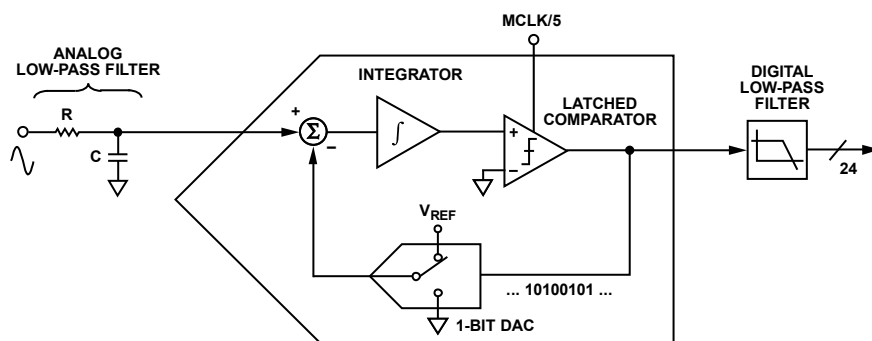
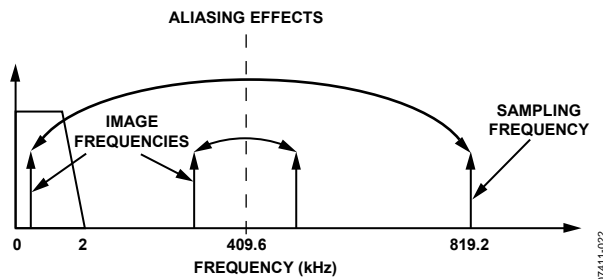

Figure 41. First-Order Σ - Δ ADC
Figure 42. ADC and Signal Processing in Current Channel Outline Dimensions
For simplicity, the block diagram in Figure 41 shows a first-order Σ - Δ ADC. The converter is made up of the Σ - Δ modulator and the digital low-pass filter (LPF).
Figure 41 also shows an analog LPF (RC) on the input to the modulator. This filter is present to prevent aliasing, an artifact of all sampled systems. Aliasing means that frequency components in the input signal to the ADC, which are higher than half the sampling rate of the ADC, appear in the sampled signal at a frequency below half the sampling rate. Figure 42 illustrates the effect. Frequency components (the black arrows) above half the sampling frequency (also known as the Nyquist frequency, that is, 409.6 kHz) are imaged or folded back down below 409.6 kHz. This happens with all ADCs, regardless of the architecture. In Figure 42, only frequencies near the sampling frequency (819.2 kHz) move into the band of interest for metering (40 Hz to 2 kHz). This allows the use of a very simple LPF to attenuate high frequency (at approximately 819.2 kHz) noise and prevents distortion in the band of interest.
For conventional current sensors, a simple RC filter (single-pole LPF) with a corner frequency of 10 kHz produces an attenuation of approximately 40 dB at 819.2 kHz (see Figure 42). The 20 dB per decade attenuation is usually sufficient to eliminate the effects of aliasing for conventional current sensors. However, for a di/dt sensor such as a Rogowski coil, the sensor has a 20 dB per decade gain. This neutralizes the -20 dB per decade attenuation produced by one simple LPF. Therefore, when using a di/dt sensor, care should be taken to offset the 20 dB per decade gain. One simple approach is to cascade two RC filters to produce the -40 dB per decade attenuation needed.